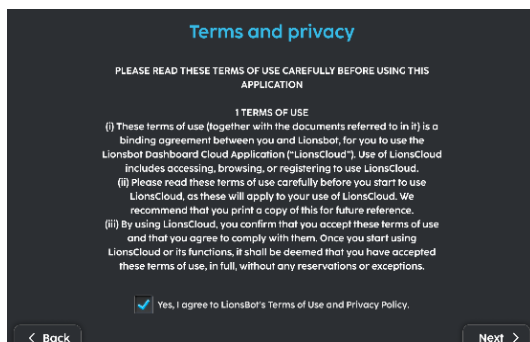

FIGURE 3-7
3. Read and agree to the Terms of Use and Privacy Policy (Fig. 3-7).